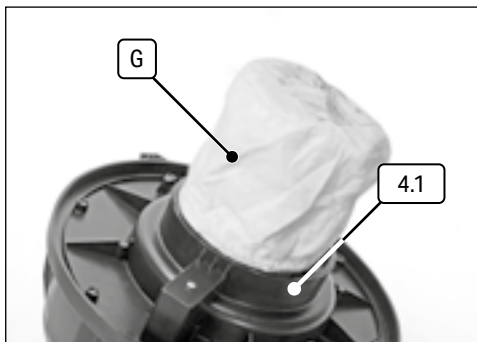

Fig. 5
### 8.1 Dry Vacuuming (Fig.5 – Fig.6)
2. Fit the cloth filter (G) over the filter cage (4.1). Ensure that it is pushed down securely and fully covers the filter/float cage. (Fig. 5).